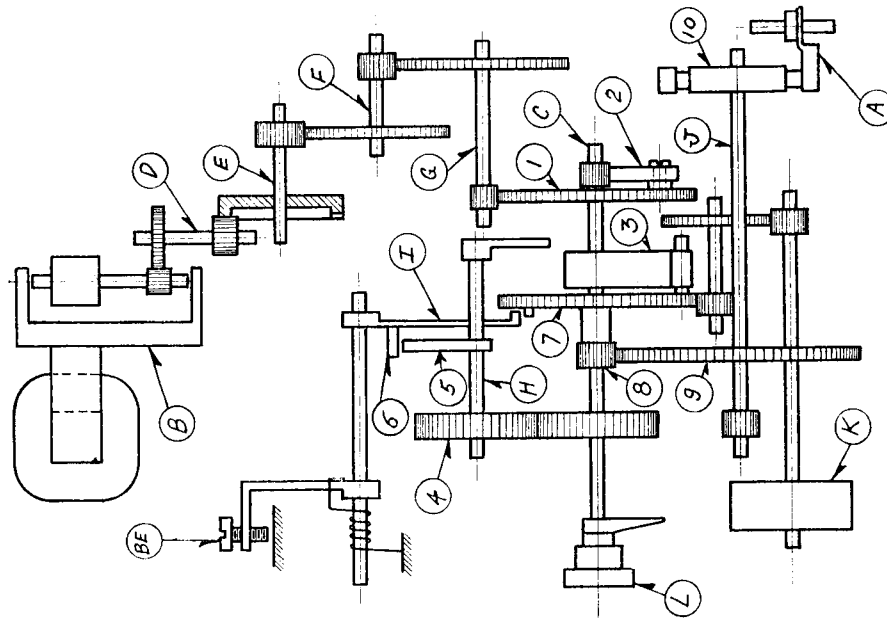
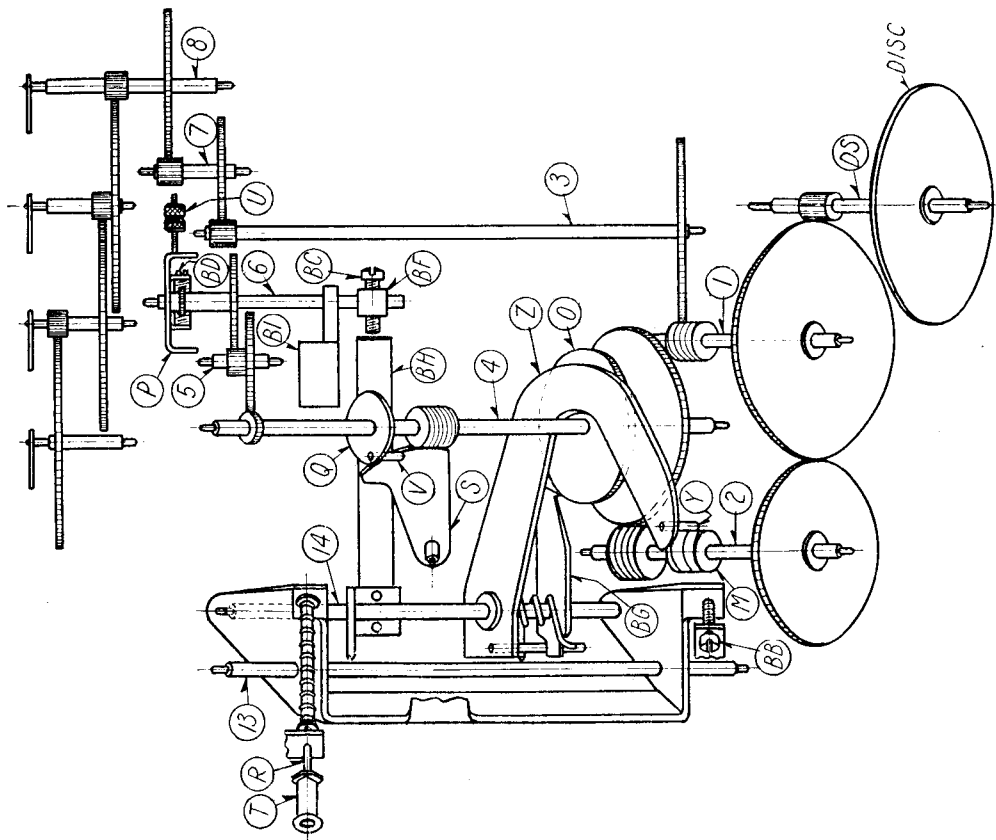

FIG. 4—RB TIMING ELEMENT
FIG. 3—DIAGRAM OF RB REGISTER
5. The operation of the meter mechanism may be understood from Fig. 3. Under load the disc-shaft (DS) integrates watt-hours on the register through the gearing of shaft assemblies 1, 3, 7 and 8. At the same time the pen (P) is advanced through shaft assemblies, 1, 2, 4, 5 and 6. At the end of the time interval the tripping arm (A) Fig. 4, pushes against rod (R), moving the
9. The time interval is determined by the synchronous motor (B) Fig. 4 driving shaft (C) through shaft D, E, F and G. Gear (1) is loose on shaft (C) and drives shaft (C) through ratchet (2). This winds up spring (3) and at the same time turns gear (4) on shaft (H) to operate cam (5). When shaft (H) makes one revolution the cam raises pin (6) on arm (I) and releases gear (7) on shaft (C) to which the other end of spring (3) is attached. Pinion (8) on shaft (C) drives gear (9) on shaft (J) causing the reset wheel (10) to force arm (A) against trip rod (R) in Fig. 3, allowing the pen to reset to zero and also advancing the paper the correct amount. The torque of the mechanism is held constant during the reset period by spring governor (K). Gear (1) is made to drive shaft (C) through a ratchet so that by turning knob (L) manually one revolution, the mechanism can be made to trip the pen gearing and reset pen to zero.
16. To check the zero line press on rod (R) to trip the pen which should fall to zero. If it does not return to zero, first, see if the worm wheel on shaft (4) Fig. 3, is completely de-meshed from the worm on shaft (2), if it is not, move collar (T) out on its arm until the worm-wheel is de-meshed when rod (R) is pressed. Secure head (T) in position by the locknut provided. If the worm-wheel de-meshes properly without the pen returning to zero, move the weights (U) further out on their arm locking them together. Do not however, place these weights so far out as to have the pen return too rapidly. If the pen does not come back exactly to zero, check to see if the stop (V) is in contact with the sector (S). When the stop is in contact with the sector (S) or only slightly out of position, the adjustment of the pen may be made by the micro-meter adjustment given by worm (BD).
17. If the stop (V) is out of contact by a large amount, hold the rod (R) in the tripping position and rotate the disc which carries stop (V) until the stop makes contact with the sector (S). The final adjustment should be made with worm (BD). After adjusting zero, check it by tripping the pen from various positions on the paper.
18. The head (T) on the tripping arm should be very close to, but not in contact with, the end of the tripping rod, except at the moment of tripping.